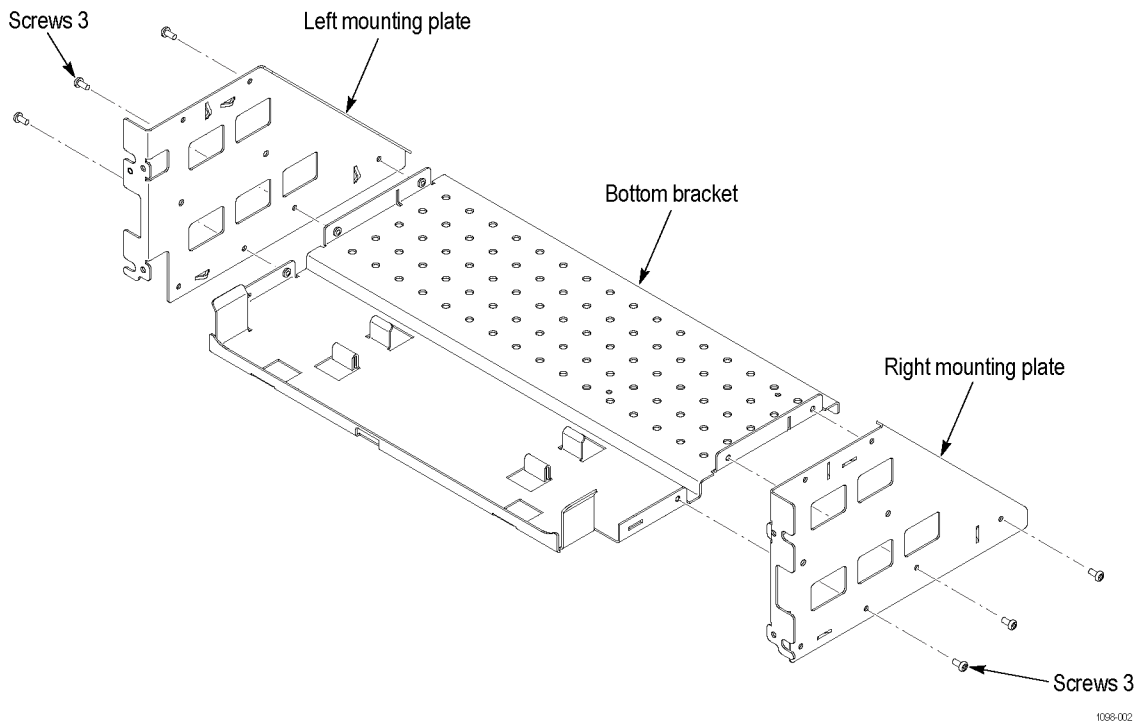

Figure 4: Assembling the left and right mounting plates
1. Install the left and right side brackets to the bottom bracket using three pan head screws (211-1275-00) on each side. Tighten these screws to 8 in-lb. (See Figure 4.)